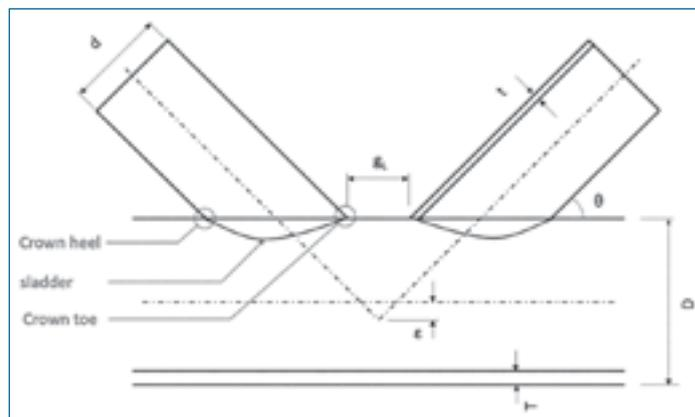

Figure 1: An annotated sketch of a tubular K-joint.
Figure 1 shows an annotated outline of a tubular K-joint with the most important areas for the following considerations: The smaller brace is described by its diameter (d) and wall thickness (t); the chord, similarly, by its diameter (D) and wall thickness (T). Three geometrical factors, eccentricity (ϵ), angle between brace and chord (θ) and the gap between the two braces (g_u), are drawn. Moreover the specific areas crown heel, sladder and crown toe are marked [3].
Based on the data in Figure 1, chord slenderness (γ) is calculated in (1), taking into account the diameter proportion (2). According to references from Kuhlmann et al [3], chord slenderness must be greater than twelve.